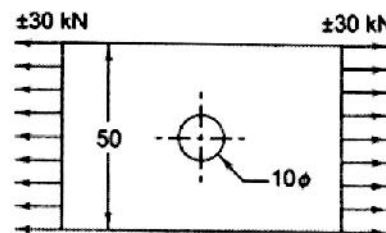

Figure Q3b
c) A steel plate ($S_{ut} = 440 \text{ N/mm}^2$) in hot rolled condition is subjected to completely reversed axial load of 30 kN, as shown in Figure Q3b. The notch sensitivity factor can be taken as 0.8 and the expected reliability is 90%. Suitable load factor for axial loading is given as 0.85. The size factor is 0.85. The factor of safety is 2.0. Determine the thickness of the plate. [08]